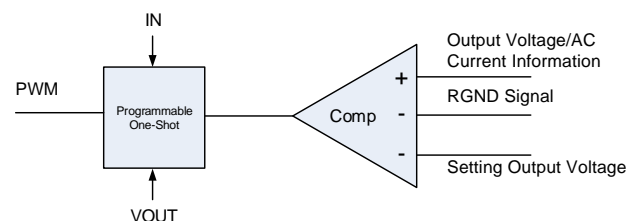

Figure 2. Simplified Control Schematic of AOZ23655QI
The simplified control schematic is shown in Figure 2. The high-side switch on-time is determined solely by a one-shot whose pulse width is inversely proportional to input voltage (IN). The one-shot is triggered when the internal setting output voltage is higher than the combined information of output voltage and the AC current information of inductor and load line signal, which is processed and obtained through the sensed low-side MOSFET current once it turns-on. The added AC current information can help the stability of constant-on time control even with pure ceramic output capacitors, which have very low ESR. The AC current information has no DC offset, which does not cause offset with output load change, which is fundamentally different from other V^2 constant-on time control schemes.